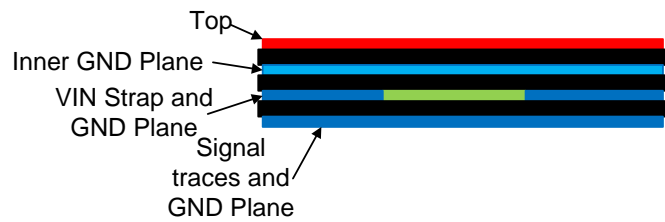

Figure 44. Example Layout for VQFN Package
The PCB layout of any DC/DC converter is critical to the optimal performance of the design. Bad PCB layout can disrupt the operation of an otherwise good schematic design. Even if the converter regulates correctly, bad PCB layout can mean the difference between a robust design and one that cannot be mass produced. Furthermore, the EMI performance of the regulator is dependent on the PCB layout, to a great extent. In a buck converter the most critical PCB feature is the loop formed by the input capacitor(s) and power ground, as shown in Figure 43. This loop carries large transient currents that can cause large transient voltages when reacting with the trace inductance. These unwanted transient voltages will disrupt the proper operation of the converter. Because of this, the traces in this loop should be wide and short, and the loop area as small as possible to reduce the parasitic inductance. Figure 44 shows a recommended layout for the critical components of the LMR33630-Q1.
1. **Place the input capacitor(s) as close as possible to the VIN and GND terminals.** VIN and GND pins are adjacent, simplifying the input capacitor placement. With the VQFN package there are two VIN/PGND pairs on either side of the package. This provides for a symmetrical layout and helps to minimize switching noise and EMI generation. A wide VIN plane should be used on a lower layer to connect both of the VIN pairs together to the input supply; see Figure 44.